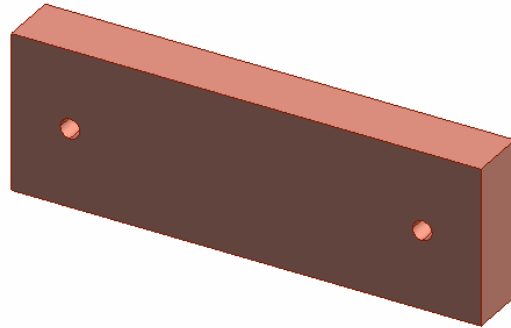

Figure 38. Cam Holder Back with holes installed.
80. Figure 38 shows the design at this point.